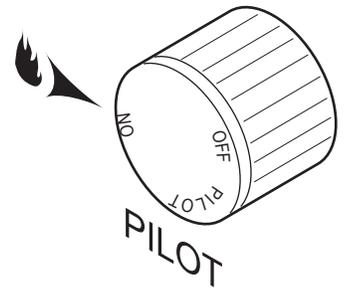

Figure 41- On Position
Depress and turn the knob counterclockwise  to the "ON" position. *Figure 41*. It will take less than four (4) seconds for the burner to ignite.